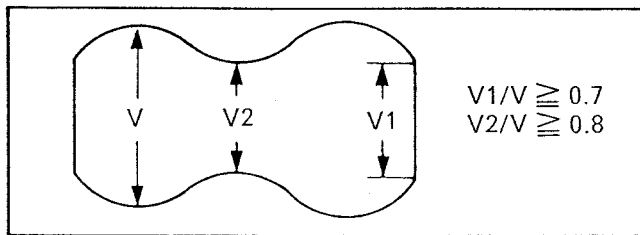

Fig. M13 Spec. of Envelope Figure
9. Turn the Tracking VR and adjust for maximum RF envelope. If the RF envelope does not meet these specs, V1/V 0.7, V2/V 0.8, then repeat steps 1-9 of item 3-2-5. again. (Fig. M13)